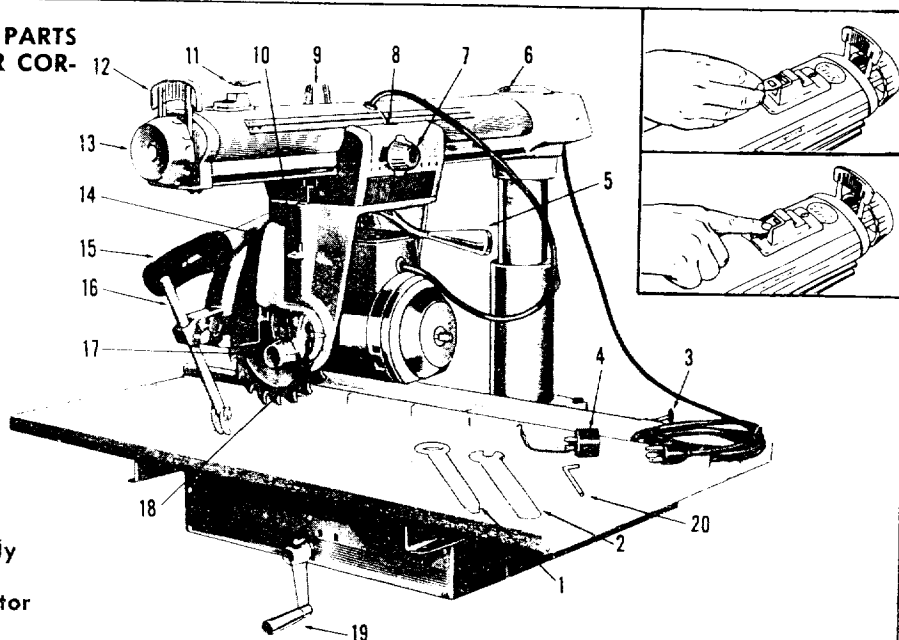
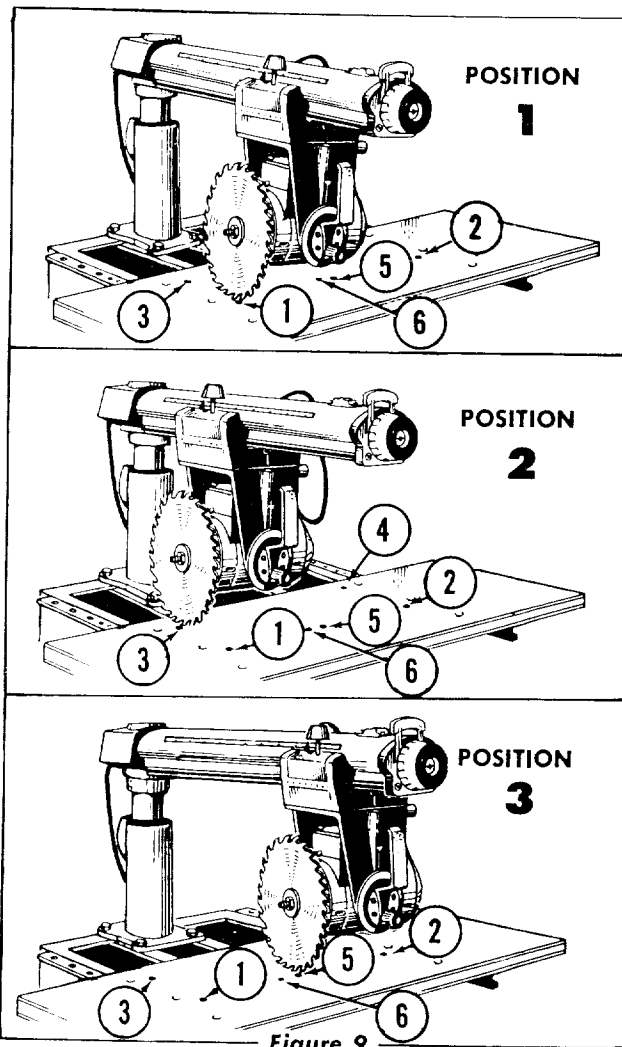
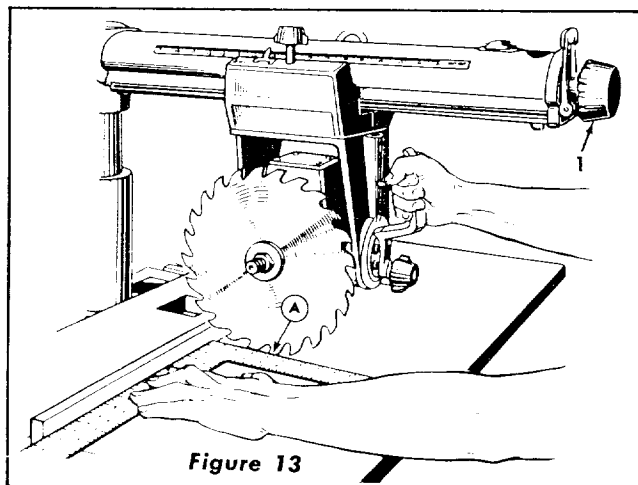

Figure 5
Figure 9
Figure 13
4. Release arm latch (Item 12, Fig. 5) and carriage lock (Item 7, Fig. 5) for easy movement of blade during leveling operation. Lower blade and move to points 1, 2, 3 and 4 (Fig. 9) to find at which of these points the blade first touches the top of the table. Spin blade by hand and listen for pinging sound to pick up this high point.
1. Set radial arm at 0° index position and tighten arm latch handle. (Item 1, figure 13.)
2. Lay square against fence as shown in Figure 13 and position until it just contacts a blade tooth (See A, figure 13). Mark this tooth.
- a. If saw tooth "A" (Figure 13) moves away from the square when moving the blade from the rear to the front of the table, loosen the table bolts on the left side of the table and tighten the left table clamp (Item 3, figure 5).
- Slightly move radial arm in proper direction to make saw tooth "A" (Figure 13) follow edge of square when checking.